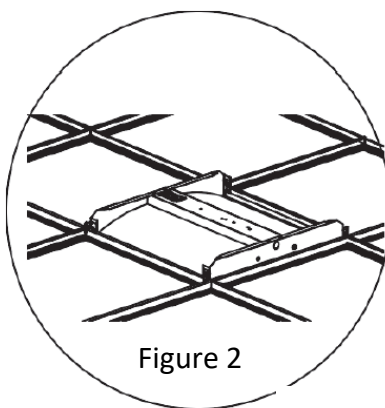

Figure 2
2. Lay the fixture into the T-grid. Bend mounting tabs flush against T-grid to make clearance for ceiling tiles (Fig. 2).